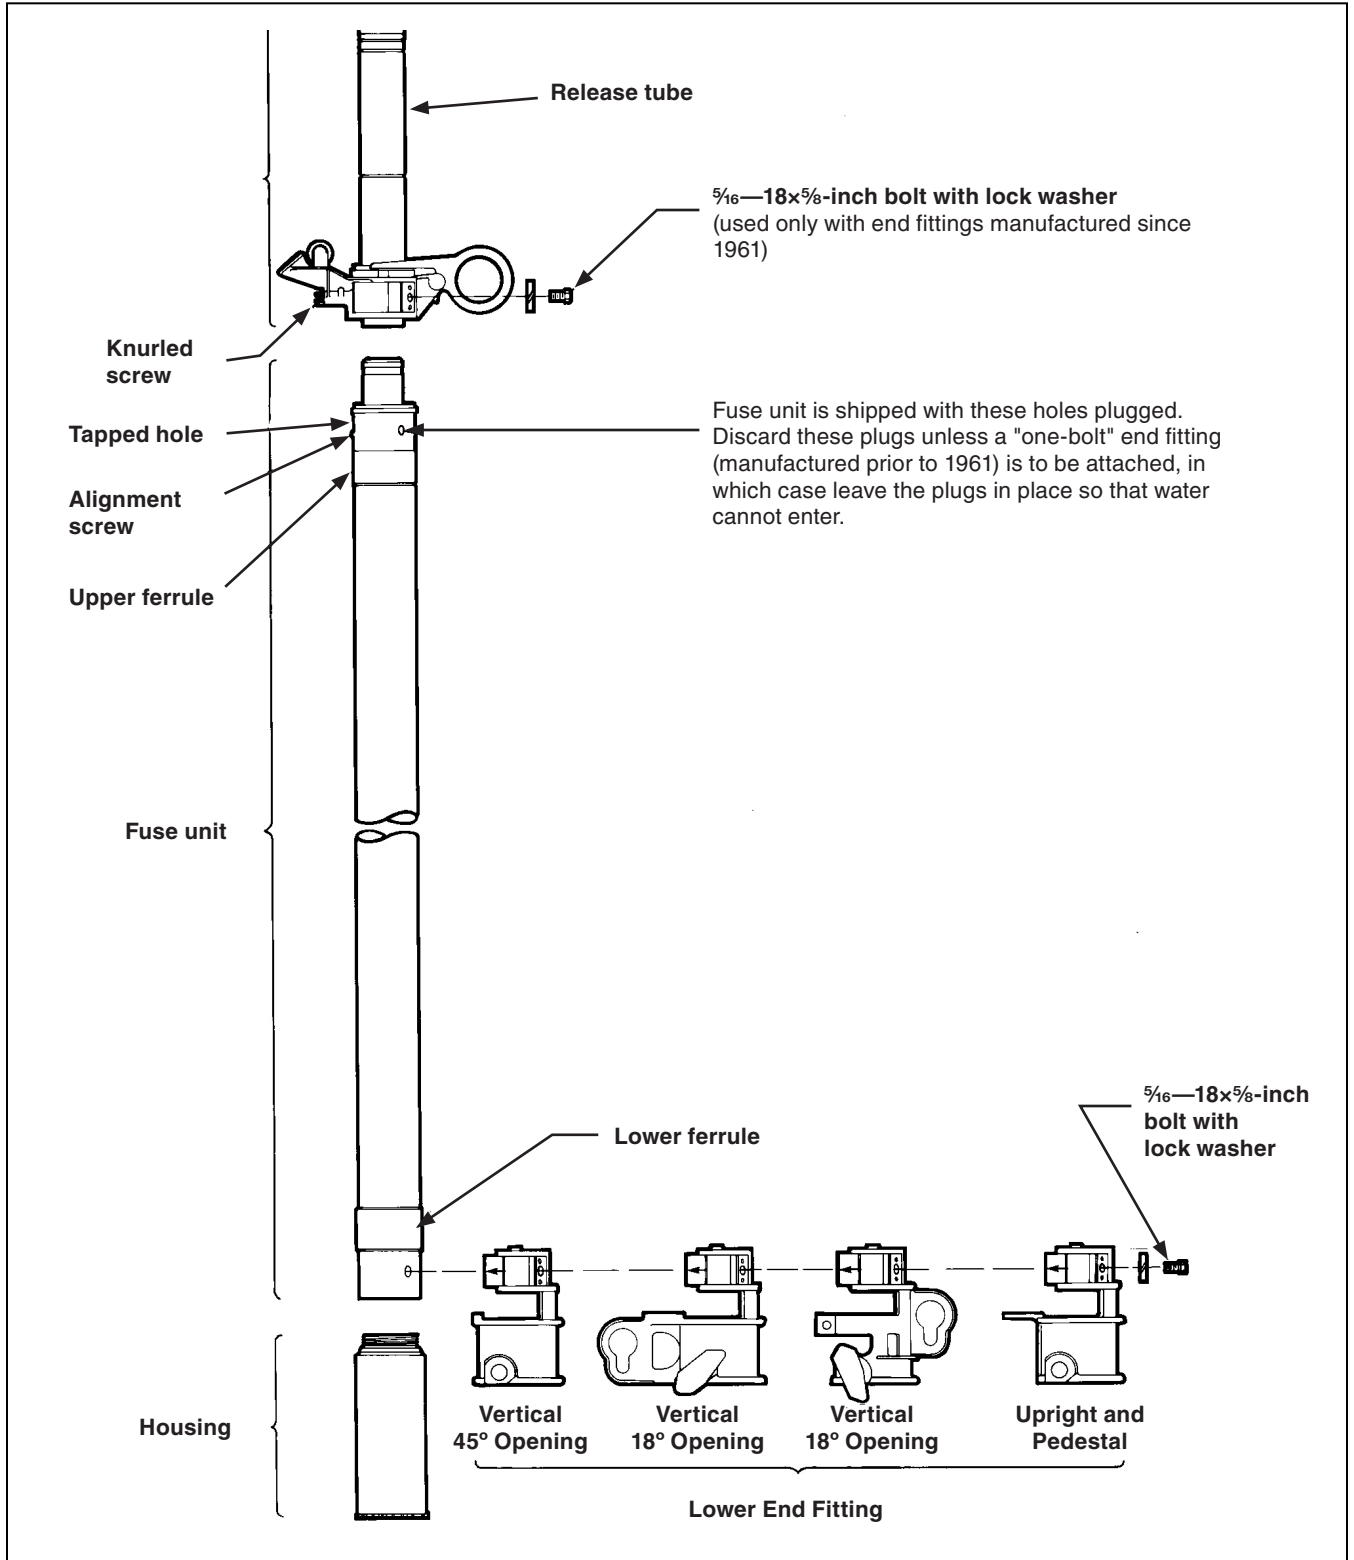

Figure 7. End fittings for SMD-2B Fuse Units.
STEP 1. As a final check to ensure the latch assembly has been properly adjusted, slowly raise the release tube and measure the amount of release-tube travel required to unlatch the fuse-unit assembly. See Figure 7 on page 13. The release-tube travel required to unlatch the fuse-unit assembly should be at least $\frac{3}{16}$ inch (5 mm), but not more than $\frac{1}{4}$ inches (14 mm). If necessary, loosen the bolts that secure the latch-and-upper-contact assembly and move this assembly toward the hinge-and-lower-contact assembly to obtain more travel of the release tube or away from the hinge-and-lower-contact assembly to reduce the travel of the release tube. When the specified release-tube travel is obtained, fully tighten the bolts that secure the latch-and-upper-contact assembly.
STEP 1. Check the upper end fitting to ensure the release tube slides freely. See Figure 7 on page 13. If it does not, use a new upper end fitting.
Pull out the knurled screw in the upper end-fitting casting as far as possible and slide the upper end fitting over the upper ferrule of the fuse unit until the half-round slot, located beneath the knurled screw in the upper end-fitting casting, rests on the head of the alignment screw located below the tapped hole in the ferrule of the fuse unit. Tighten the knurled screw firmly into the tapped hole. Install the two $\frac{5}{16}$ — $18 \times \frac{5}{8}$ -inch stainless steel bolts and lock washers (provided) as shown in Figure 7 on page 13.